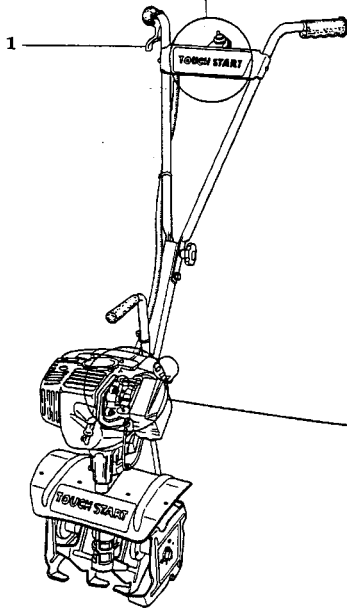

FIG. 11
**NOTE.** Fig. 11 shows the location of the operating controls of your Excel E-Z Tiller. For your safety, we strongly recommend that you become familiar with their functions before using the machine.
- a. (FIG. 11) Throttle lever (1) controls the engine speed and tine rotation. Your E-Z Tiller is equipped with a centrifugal clutch that engages the tine drive system when the engine speed is increased. When the throttle lever is released, the engine speed slows down, and the tines will automatically stop.
(FIG. 11 B) Depress the priming bulb (4) several times until the fuel flows through the bulb into the carburetor. Depress the fuel injection button (5) **ONCE**, which transfers the fuel from the carburetor to the combustion chamber. Turn the stop switch (2) to the "on position" and press the "start button" (3).
(FIG. 11) When the engine is warmed up, it is not necessary to depress the priming bulb and fuel injection button. Doing this would cause the engine to flood and make starting difficult. The correct procedure is to simply rotate the stop switch (2) to the "on position" and press the "start button" (3).
(FIG. 11 & 11A) Decrease the engine speed by releasing the throttle lever (1), then turn the stop switch (2) to the "OFF" position.